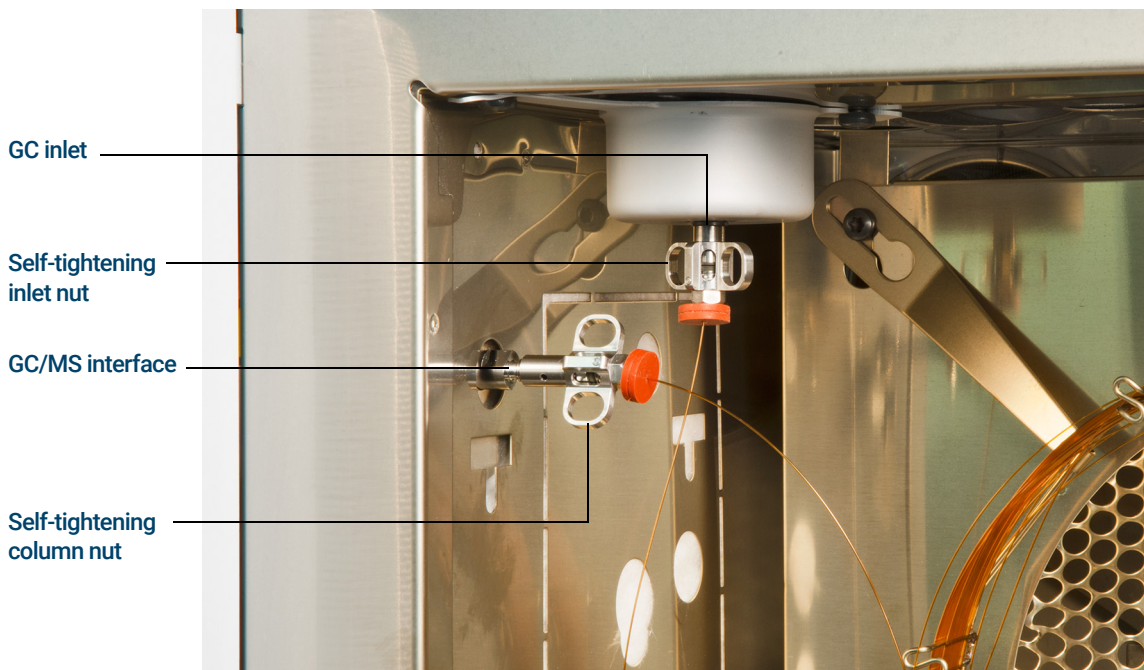

Figure 22. Installing a capillary column in the GC/MS interface
- 11 Hand-tighten the nut. (See **Figure 22**.) Ensure the position of the column does not change as you tighten the nut.